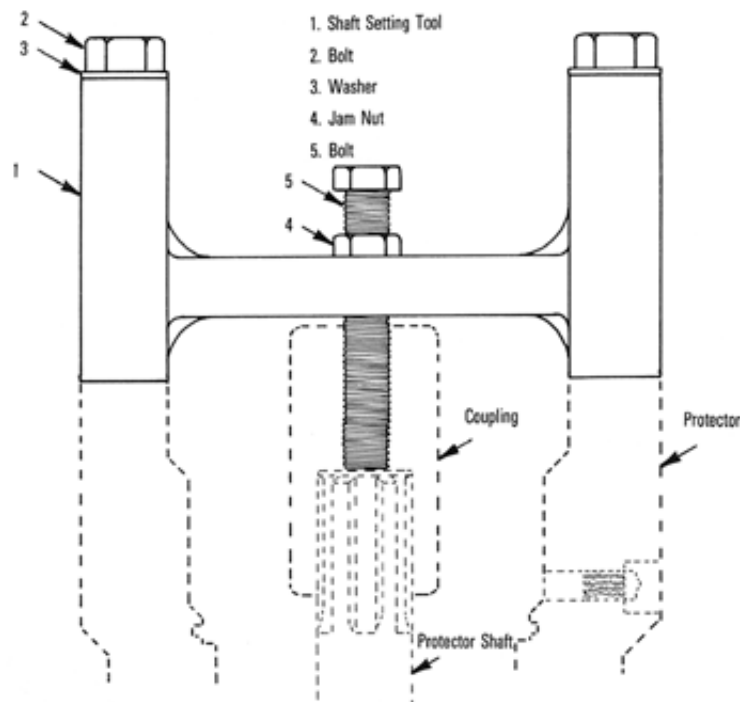

Figure 4-39: Thrust setting tool on the top end of the protector
6. Attach the proper thrust setting tool to the head of the intake with the coupling installed as shown in Figure 4-39. Loosen the jam nut on the center bolt and turn the bolt down until it touches the divider in the coupling. Tighten the bolt to 60 lbf in (5 lbf ft). **Do not overtighten!** Tighten the jam nut while holding a backup on the center bolt. Remove the thrust setting tool.